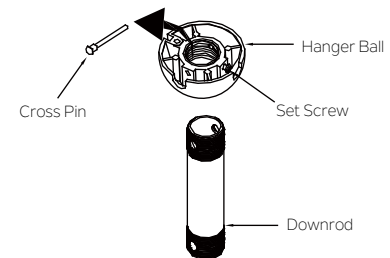

Fig. 7
Step 3. Remove the hanger ball from downrod assembly by loosening set screws, removing the cross pin, and twisting ball off the rod.(Fig. 7)